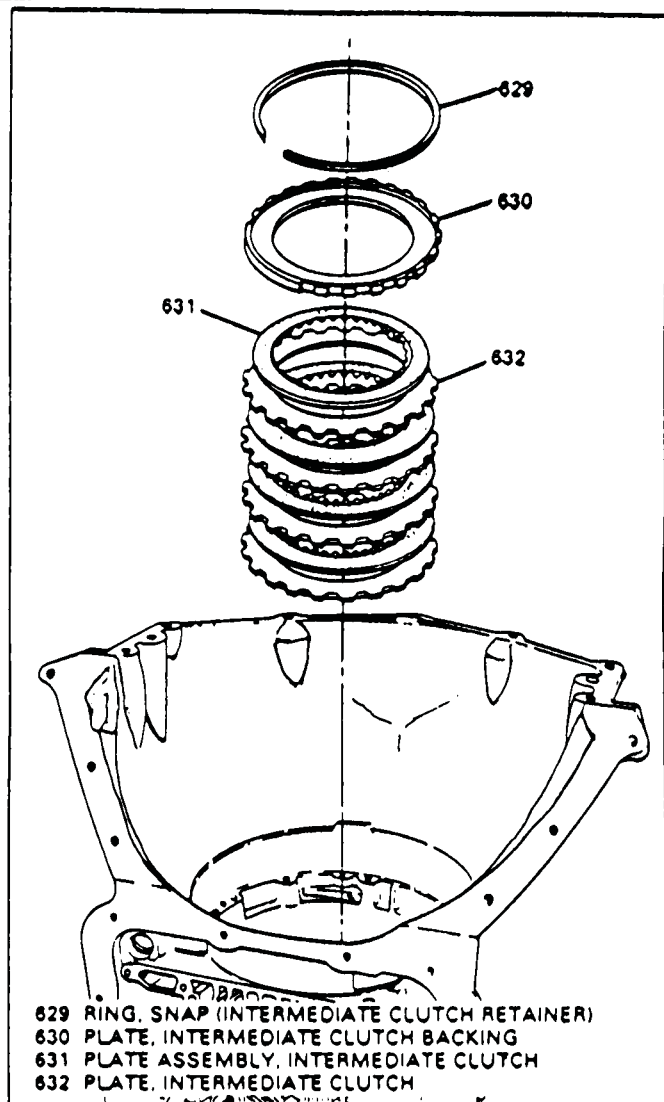

Figure 78
1. Install the intermediate clutch plates both steel and lined, starting with a steel plate, and alternating with a lined plate (See Figure 78).
2. Install the intermediate backing plate as shown in Figure 78.